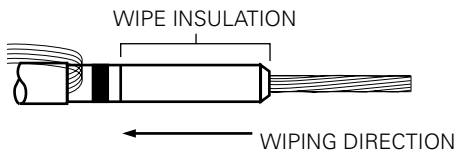

Figure 7. Line illustration of insulation cleaning
- Clean insulation thoroughly with solvent dampened rag, wiping from conductor end toward insulation shield. (Refer to Figure 7.)